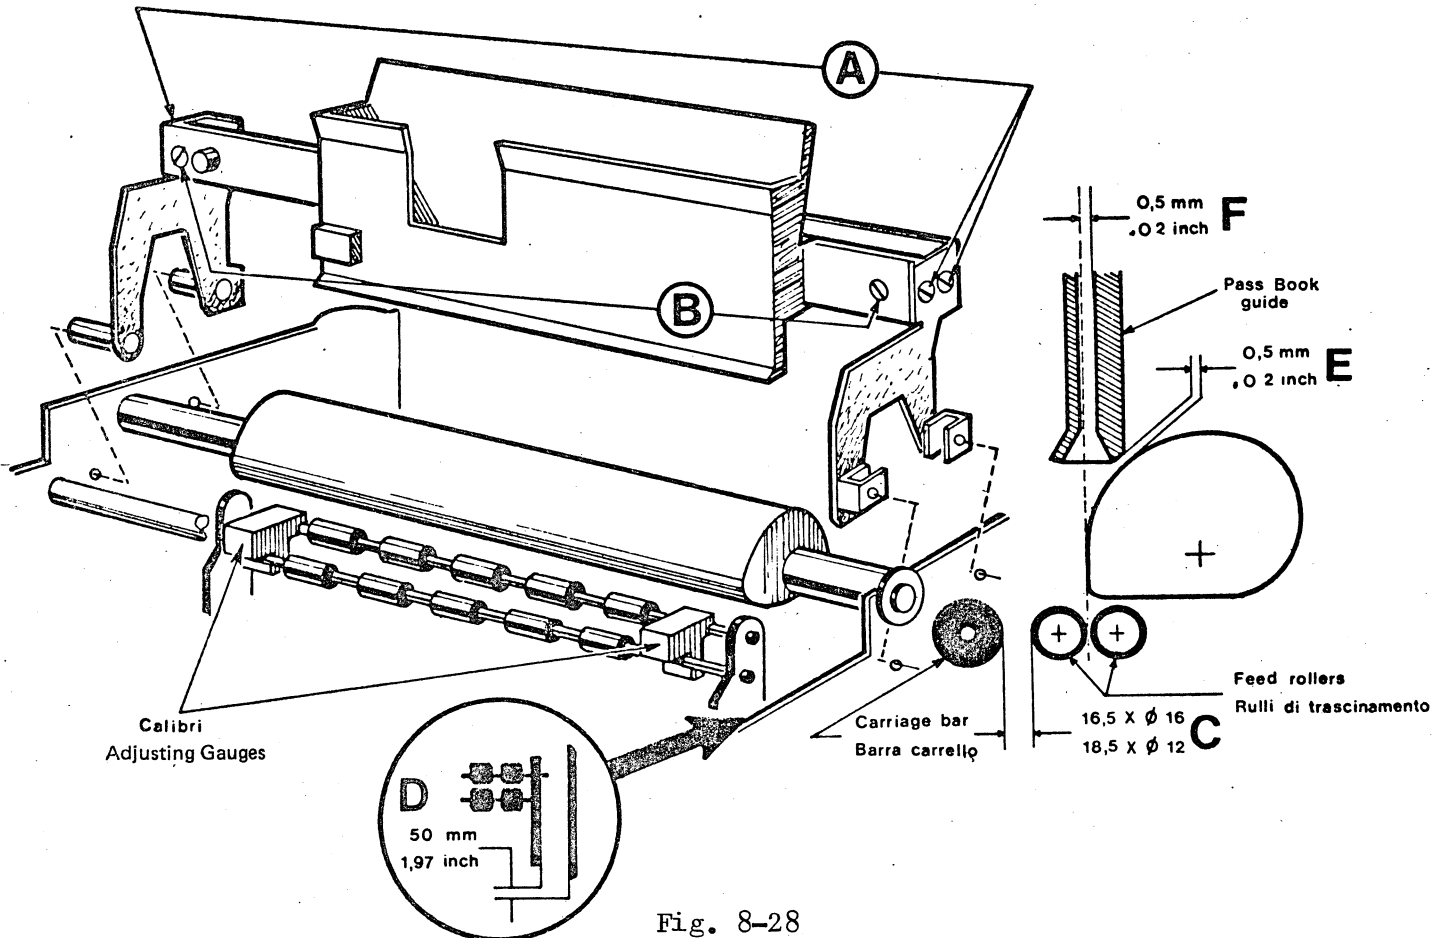

Fig. 8-28
C-D-E-F dimension must have the values shown in Fig. 8.28
- . Act on the "B" screws to obtain the parallelism between the guide and the print roller (fig. 8.28)
- . Mount 2 adjusting gauges (according to the bar diameter) between the carriage sliding front bar and the movable bar of the passbook rollers (fig. 8.28)